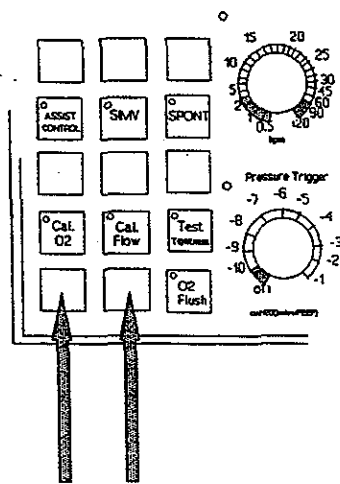

fig.12_5
7. Push the two bottom keys see figure 12_5. This will begin the program. "Print History" not available with SW-Version 33. In earlier SW-Versions than 33, press the "Print" button.